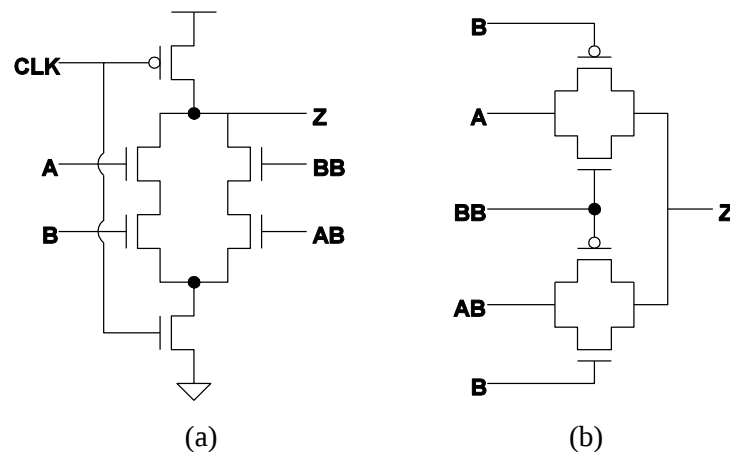
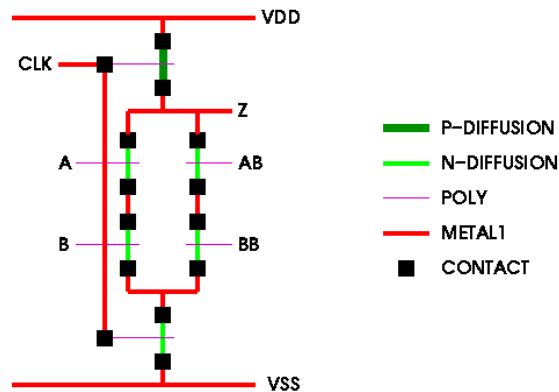

Figure 1 XOR schematics: Dynamic vs. Transmission gate
Fig.2 A stick diagram for dynamic XOR
The dynamic logic uses a sequence of precharge and conditional evaluation phases to realize complex logic functions with less transistors. Consider Fig.1(a). When CLK is low (0), the output node Z is precharged to VDD by a PMOS transistor. During that time, the NMOS connected to GND is off. Thus, no DC current flows regardless of the values of the input signals. On the other hand, when CLK is high (1), the precharge PMOS is OFF, and the evaluation NMOS is turned ON. Depending on the values of the inputs and the composition of the pull-down network, a conditional path between Z and GND is created. If such a path exists, the output Z is discharged, and a low output signal is obtained. If not, the precharged value remains on the output node. Several important features of the dynamic gate are following:
Another promising approach to implementing complex logic is to realize it as a logical network of transmission gates as shown in Fig.1(b). The Transmission Gate (TG) approach has the advantage of being simple and fast. Complex CMOS combinational logic is implemented with a minimal number of transistors. This reduces the parasitic capacitances and results in a faster circuit. This gate is composed of an NMOS transistor and a PMOS device in a parallel arrangement. The TG acts as a bi-directional switch controlled by the gate signals; B and BB for Fig.1(b). When $B = 0$, and $BB = 1$, both transistors in the upper TG are on, allowing the signal to
You made a static XOR gate in Lab3. In this lab, you will design two different XOR layouts using Cadence as shown in Fig 1. And after parameter extraction, you'll simulate the netlist using AimSpice. For simplicity, assume the complimentary signals are given as shown in Fig.1. Make sure that the labels are, **A**, **B**, **AB**, **BB**, **CLK** and **Z**.
In Fig.1, the first XOR is implemented using the dynamic circuit scheme while the other consists of two identical transmission gates. The first one will be drawn as one level. Fig.2 shows the stick diagram for the dynamic circuit. The second XOR implementation will be designed hierarchically using the transmission gate implemented in Lab3. The procedures for drawing and simulating circuits are identical to the previous labs. You can use the input deck of SPICE from Lab2.
2. Draw a stick diagram of Transmission XOR. (Refer to Fig.2)